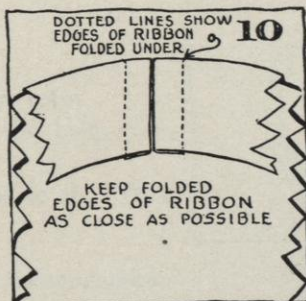

FIG. 10.
- a. Fold the $\frac{1}{4}$ inch of ribbon allowed for the seam back against the brim and over the edge, so that the two folded edges and four selvages just meet (see Figure 10).